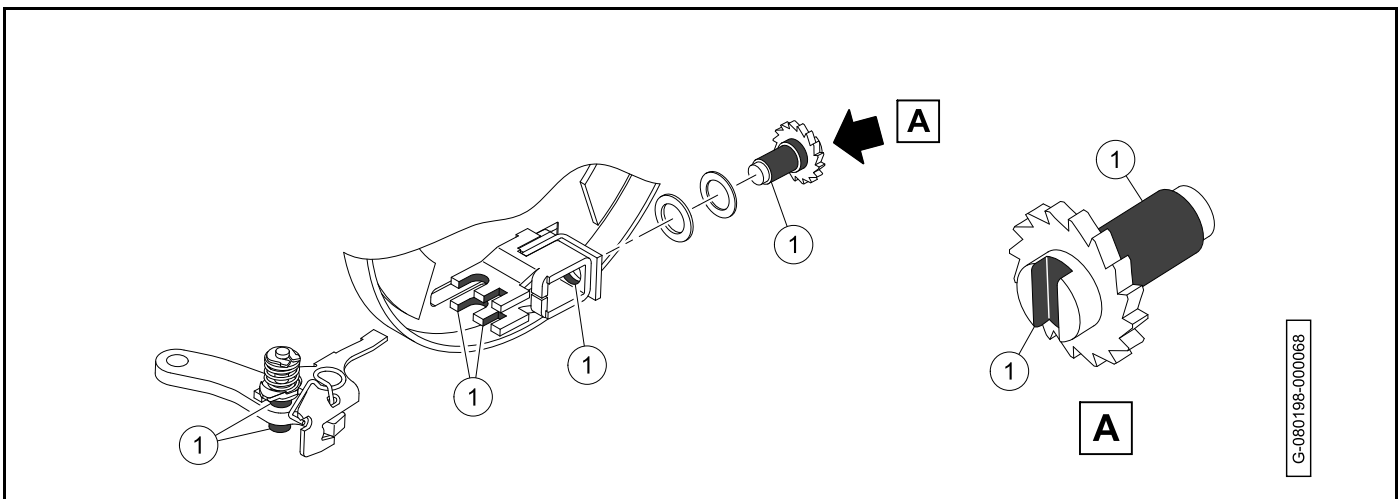

Figure 6-10
- Use a small brush to carefully apply a light coat of white lithium NLGI #2 grease (Dow Corning® BR2-Plus or equivalent) to the brake adjuster assembly, adjuster wheel shoe slots, and the shaft of the adjuster wheel as shown (Figure 6-10).